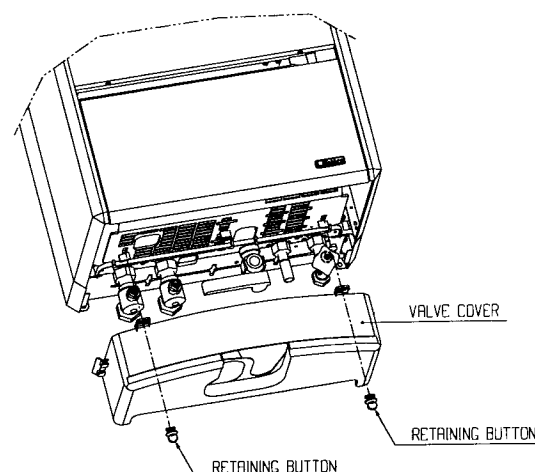

Fig. 24A
- 6.15.2** Clip valve cover (fig. 24a) into place and retain using the two retaining buttons by pushing them through the holes and turning through 90°.